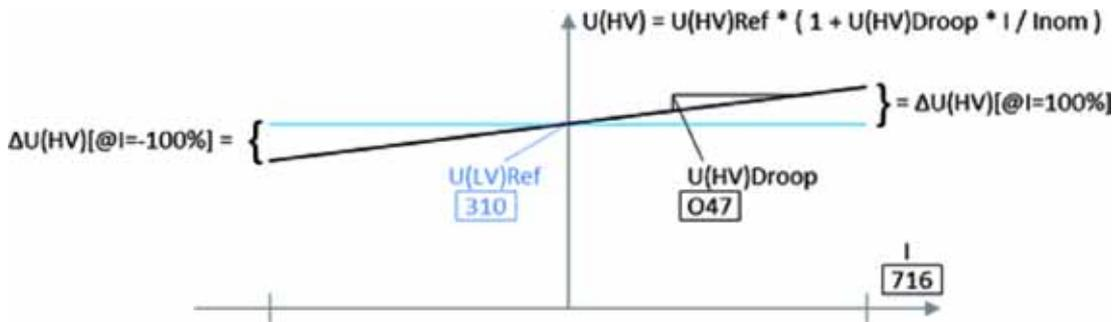

Fig. 28 High side DC-link voltage droop control.
The high side DC-link voltage droop controller adjusts the voltage reference based on the actual LV-side output current (I), i.e. provides for load sharing. The principle function of the voltage droop control is shown in Fig. 28.
In Fig. 28, it can be seen that at 100% output current (related to the LV-side nominal DC current) the internal voltage reference is adjusted according to the value of the voltage droop controller gain [O47].